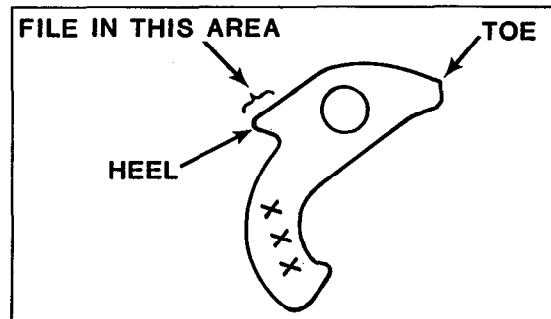

Figure 1.
3. Use finger pressure to push inward on the toe (see figure 1) of each flyweight so that the flyweight heel protrudes outward.
4. Using a fine #1, double cut, 1/2 inch wide file, at least 3/32 inch thick, pass the file across the heel of the flyweight attempting to remove material. (See figure 1.) If the flyweight has been properly heat treated the file will "glide" smoothly over the heel of the flyweight, removing no material. If the flyweight is not properly heat treated (soft), the file will not "glide" easily across the surface of the flyweight heel, and material will be removed.